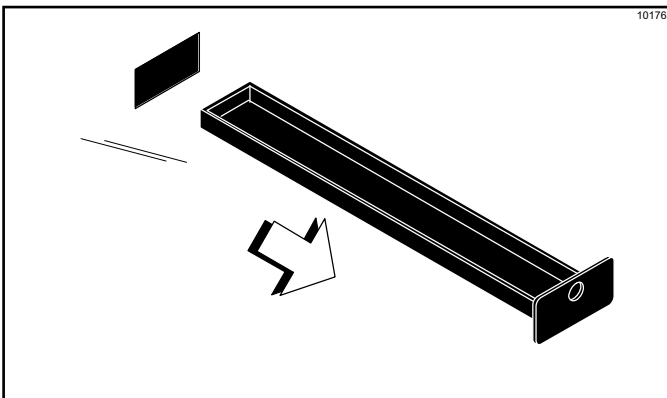

Figure 6-14
- 6 8. Slide the two drip pans into the holes in the left and rear panels. (See Figure 6-14.)